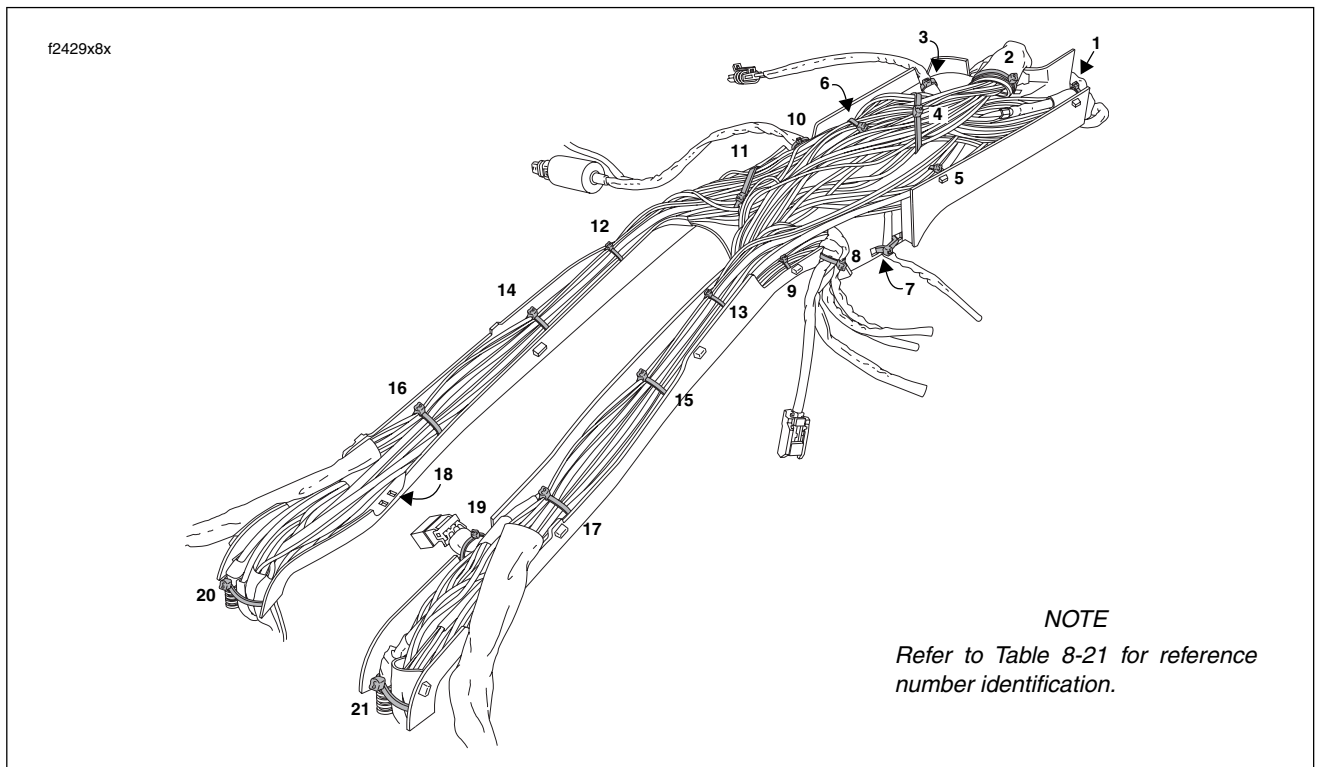

Figure 8-190. Wire Trough Cable Strap Locations (FLHTCU)
Do not tamper with the cable straps that fix the position of the breakouts. The breakouts are those branches of the main harness that exit the wire trough on the left and right sides (cable straps 3 and 7-10 in Figure 8-190). As exact placement of the breakouts is necessary for optimal fit and routing, they should be left intact whenever possible.
2. Thread **new** cable straps through slots of wire trough where removed (cable straps 1, 2, 4, 6 and 11-17). See Figure 8-190. Properly installed, both ends of the cable strap will be pointing upward.